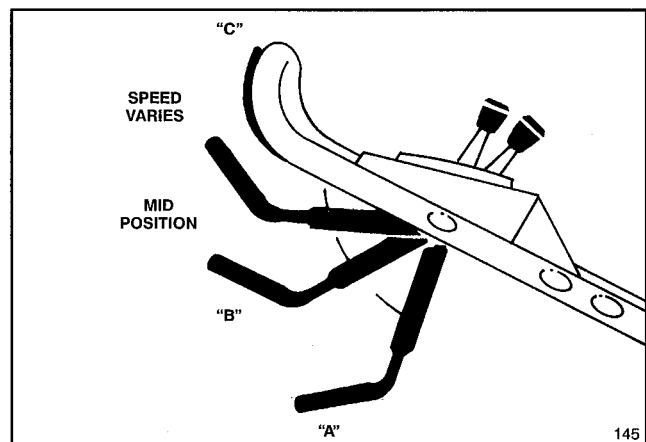

Figure 7
Note: Do not shift speeds while control bar is squeezed against handle in the "C" (drive) position (Fig. 7); the transmission could burn out. Move control bar to the mid position (Fig. 7) when changing ground speed.
6. BLADE AND TRACTION OPERATION (Fig. 7)—Move control bar down to "A" and raise to "B" to engage blade. Squeeze control bar against handle "C" to drive. To disengage traction drive but keep blade engaged, gradually release control bar to mid position. To self-propel with blade disengaged, simply squeeze control bar against handle, eliminating downward movement necessary for blade engagement.
7. STOPPING (Fig. 7)—Release control bar to stop blade and traction drive. Move ground speed control to **N** (neutral) position. To stop engine, move throttle to OFF. Remove key from switch on electric start model or pull wire off spark plug if mower will be unattended or not used.